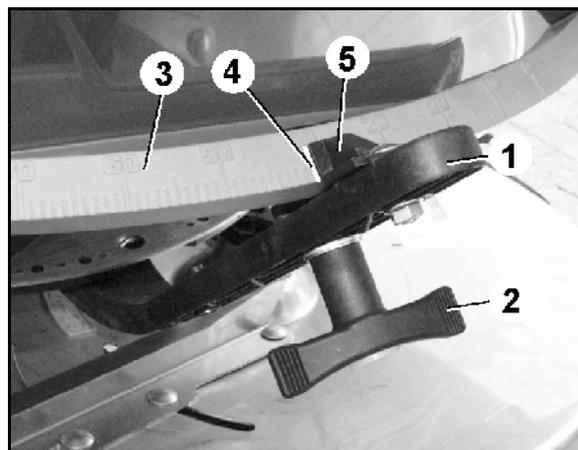

Fig. 81
The rate as per setting chart is then determined by means of the setting lever (Fig. 81/1).
2. Release the thumb screw (Fig. 81/2).
3. Look for the required slider position on the scale (Fig. 81/3).
4. Adjust the read-off edge (Fig. 81/4) of the setting lever pointer (Fig. 81/5) so that it corresponds to the scale value.
6. Retighten the thumb screw (Fig. 81/2).